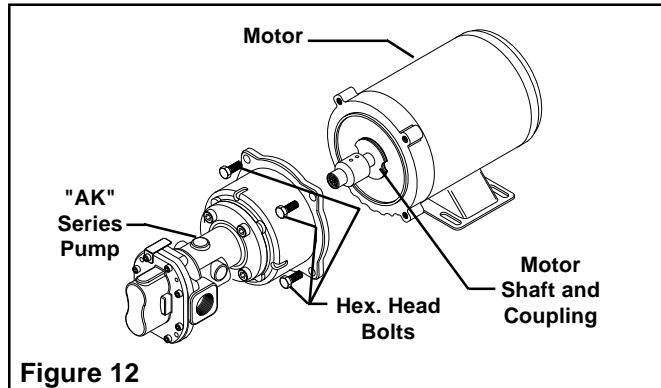

Figure 12
1. Remove the four Hex. Head Bolts securing the "AK" Series Pump to the Motor; then, slide the "AK" Series Pump off the Motor Shaft and Coupling (See Figure 12).